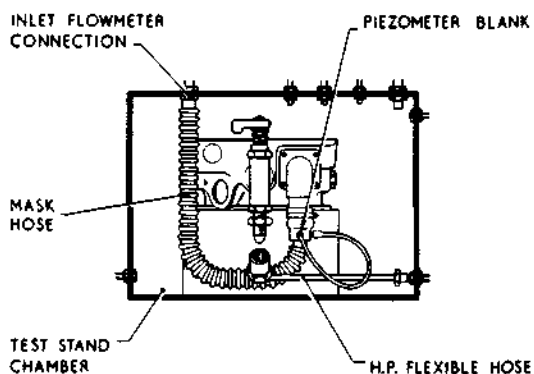

Fig.2. Connections for relief valve flow test
- (1) Connect the piezometer ring to the regulator outlet, the mask hose to the inlet adapter of the chamber and the piezometer tube to the blanking plug on the piezometer ring (fig. 2).
- (2) Set the regulator shut-off valve to ON, to relieve any pressure in the regulator, then set the valve to OFF. Set the air inlet control to 100% OXYGEN and the emergency button central.
- (3) Close and clamp the chamber door, and open the test stand by-pass valve fully.
- (4) Observe the reading of the chamber altimeter, then using the outlet flowmeter valve, raise the chamber altitude by 2900 ft. Maintain this altitude and note the reading of the outlet flowmeter. Employing the correction curves, determine the true ambient flow; this should be not less than 50 litres/min.
- (5) Open the chamber-to-atmosphere valve, close the outlet flowmeter valve, and the by-pass valve, open the chamber door and disconnect the regulator.